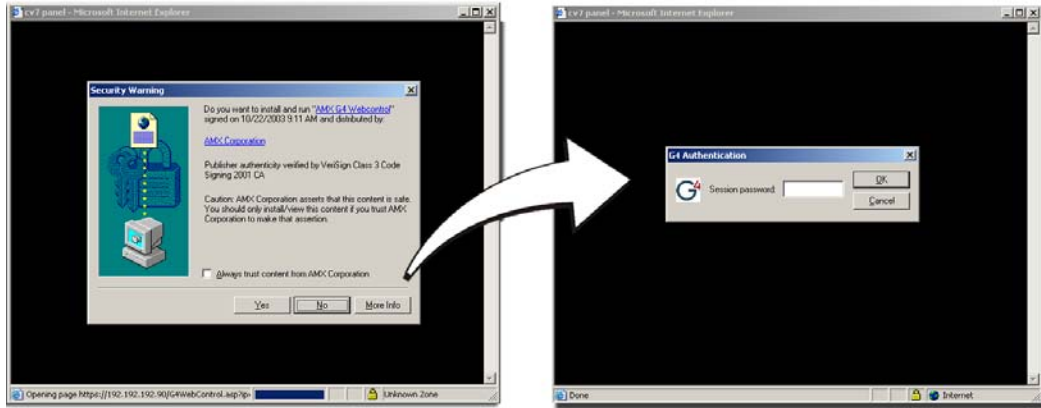

FIG. 44 Web Control VNC installation and Password entry screens
5. Click on the G4 panel name link associated with the target panel. A secondary web browser window appears on the screen (FIG. 44).